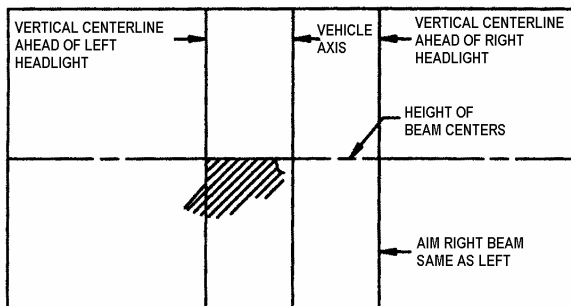

FIGURE 51: HIGH-INTENSITY ZONE (SHADED AREA) OF A PROPERLY AIMED LOWER BEAM ON THE AIMING SCREEN 7.6 M (25FT) IN FRONT OF VEHICLE 06504
6. Low beam headlights are aimed so that the top edge (the cutoff) of the high-intensity zone is at the vertical location as per Table 1 and the left edge of the high-intensity zone is at the vertical centerline of the headlight (Fig. 51).